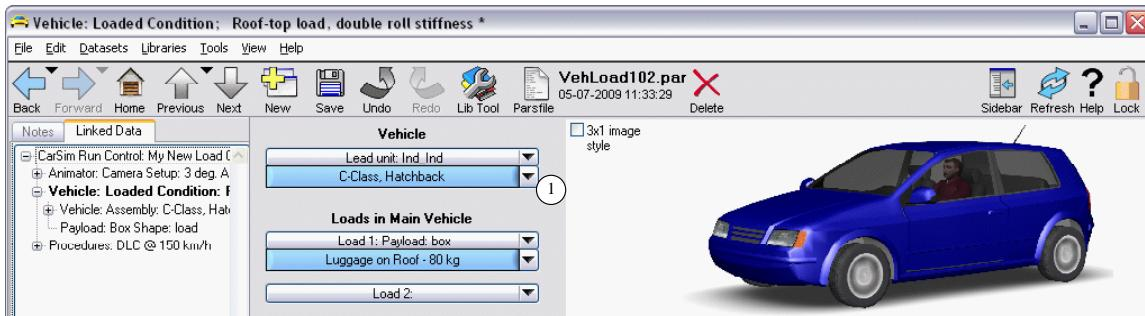
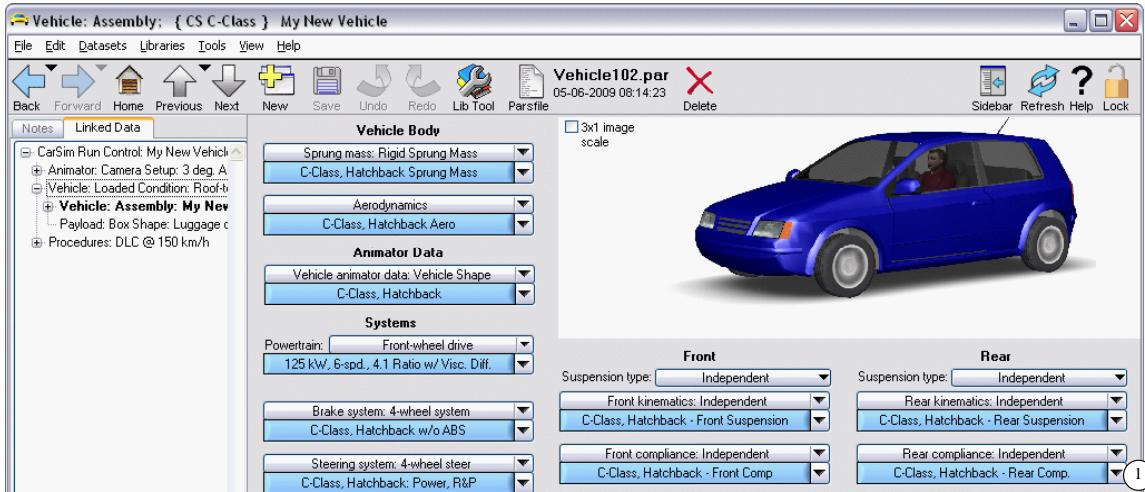
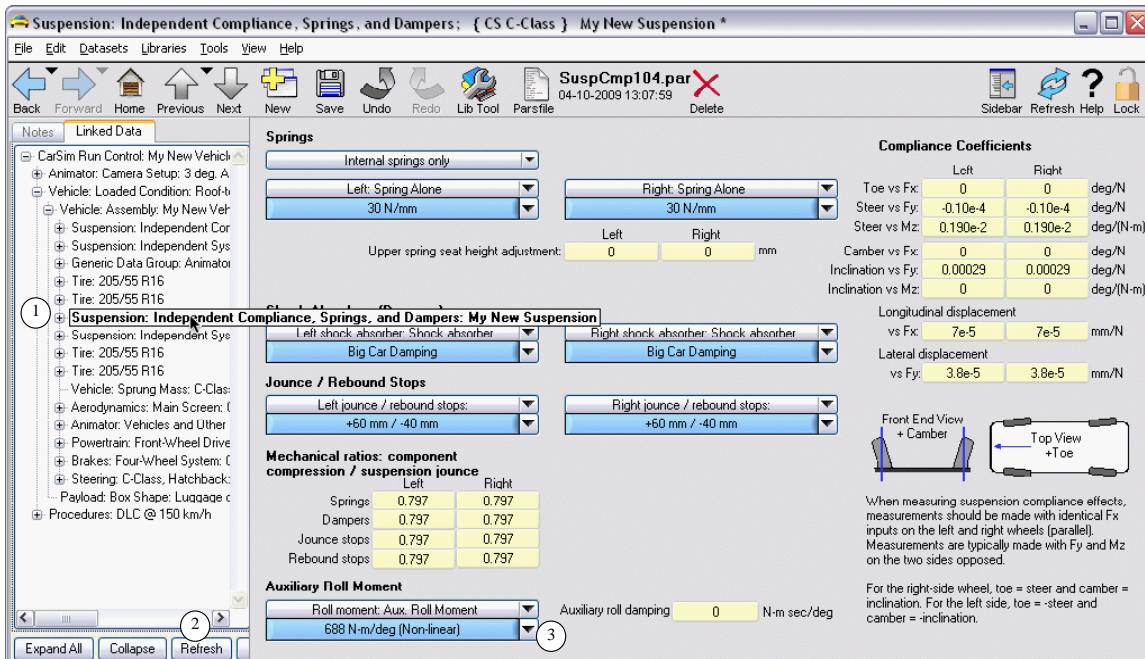

Figure 48. New vehicle load condition that will use a new vehicle.
Figure 49. New vehicle that will use the new rear suspension.
Figure 50. Suspension screen connected to new auxiliary roll moment dataset.
11. Use the drop-down control ① for the linked vehicle dataset and choose the option to **Copy and Link Dataset**. Name it Roof-top load, double roll stiffness. Click the blue button to go to the new dataset (Figure 48).
12. Use the drop-down control ① (Figure 48) for the linked vehicle dataset and choose the option to **Copy and Link Dataset**. Name it My New Vehicle. Click the blue button to go to the new dataset (Figure 49).
13. Use the drop-down control ① (Figure 49) for the linked suspension compliance dataset and choose the option to **Copy and Link Dataset**. Name it My New Suspension. Click the blue button to go to the new dataset (Figure 50).
14. Use the drop-down control ③ for the linked auxiliary roll moment dataset and choose the dataset you created in step 8: **688 N·m/deg (Non-linear)**.
15. Click the **Refresh** button ② at the bottom of the **Linked Data** sidebar. If needed click the (+) buttons to expand the view of the vehicle datasets. The new datasets should appear in the list, with the current one (**My New Suspension**) shown in bold. (If your display is limited in width as in the figure, you must move the mouse over the bold **Vehicle: Assembly** item to see the title of the dataset.)